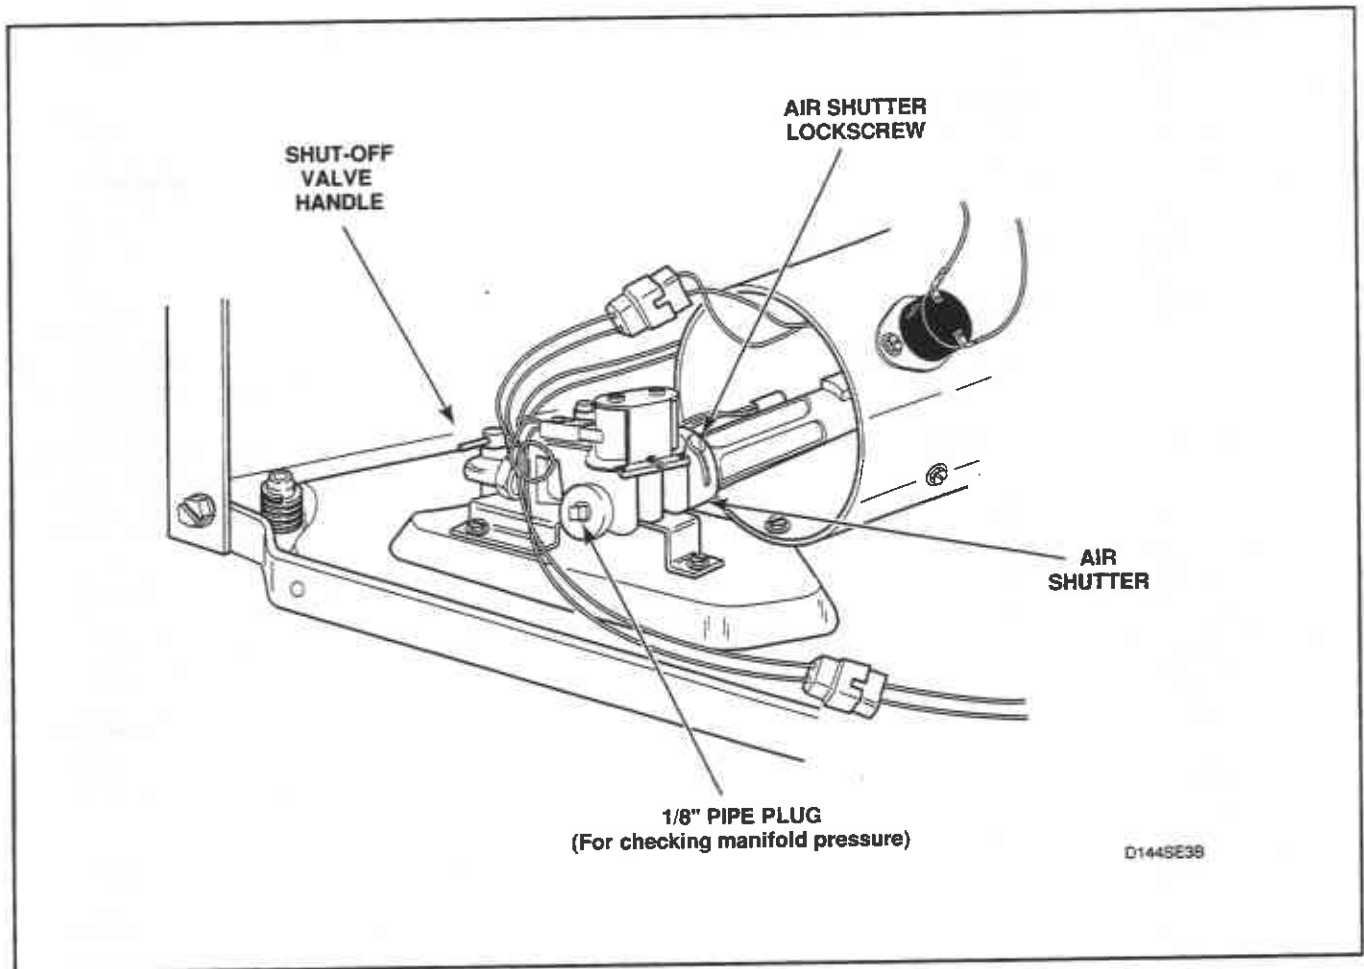

Figure 42
- e. Allot the dryer to operate for approximately five minutes, then loosen the air shutter lockscrew, *Figure 42*.
- g. After proper flame is obtained, tighten air shutter lockscrew securely, *Figure 42*.
- Close gas shut-off valve, *Figure 42*.